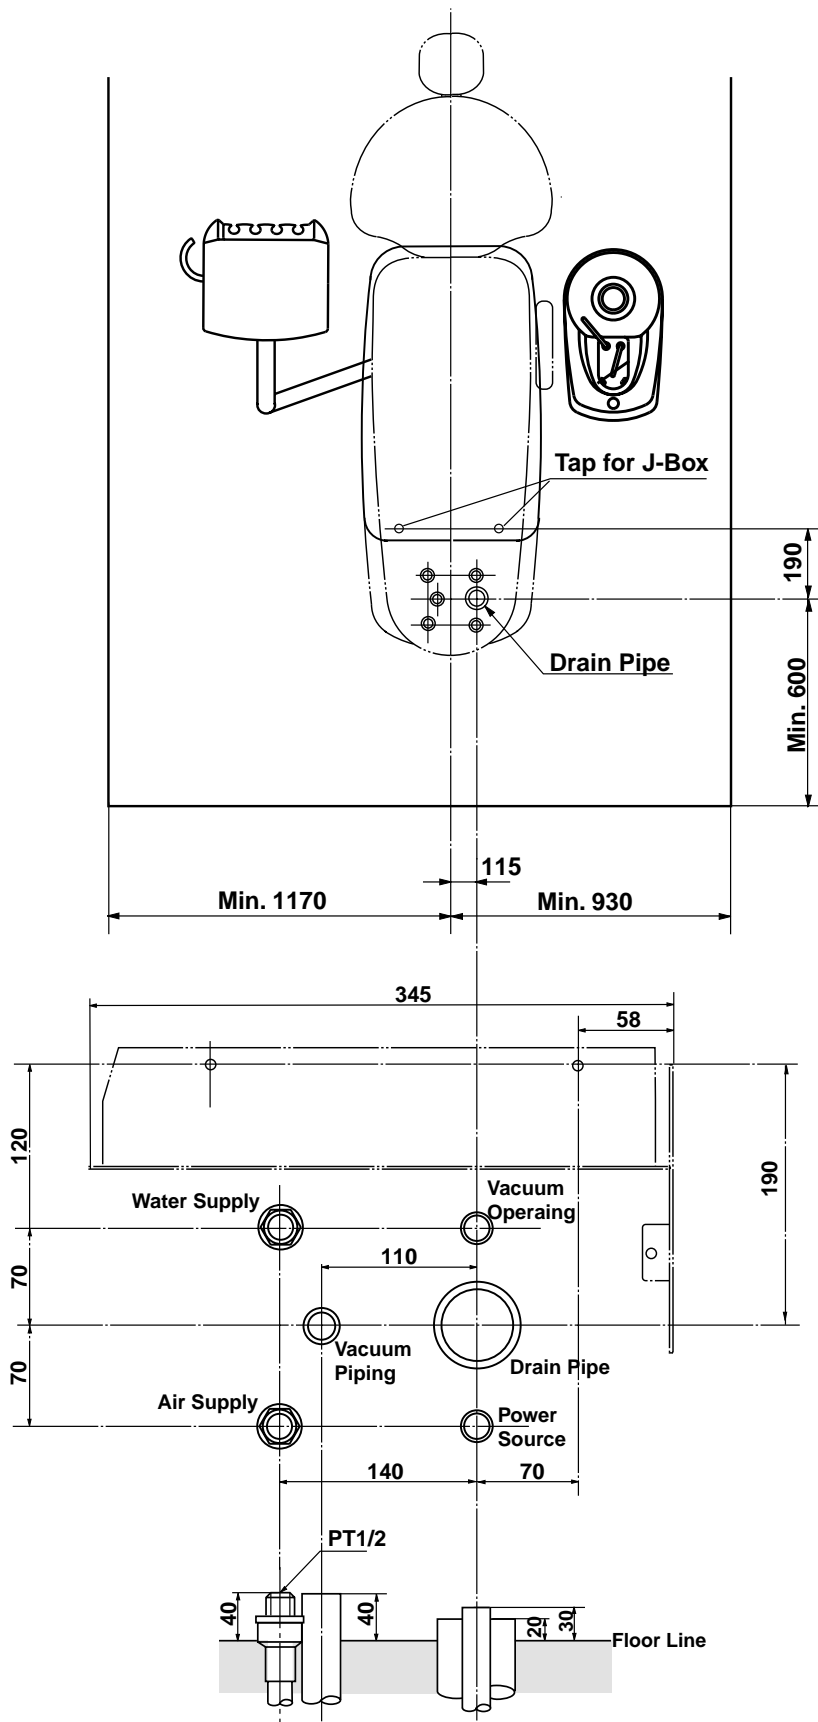

Fig.3-1-1 Setting Position and Plumbing Layout
- (1) The VOYAGER-III dental unit comprises a Chair section, Cuspidor section, Doctor unit section and Light section.
- (2) The VOYAGER-III should be mounted taking the opening end of drain pipe into due consideration. Refer to Page 5, **Fig.3-1-1**.
- (3) The place on which the VOYAGER-III (approx. 210 kg) is set must have endurance force of 250kg/m².
- (4) The setting position of the VOYAGER-III chair is shown in **Fig.3-1-1** as recommended example.
- (1) All pipings and conduits for cables are to be laid down under the floor and to come out from the floor.
- (2) The installation position and height from the floor of each pipe and cable conduit are shown in **Fig.3-1-1**.
- (3) The recommended sizes, materials and end piece are shown in **Table 1**.
- (1) Confirm that the pipings and wirings are laid out in accordance with **Fig.3-1-1**.